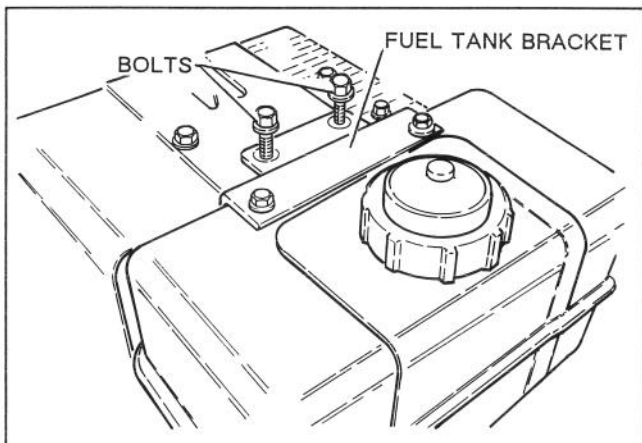

Figure 5
9. Remove (2) bolts securing upper fuel tank bracket to engine (Fig.5). Remove fuel tank.